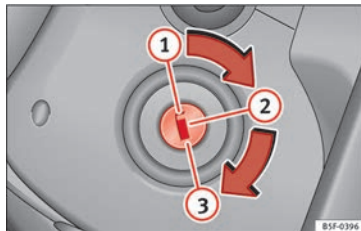

Fig. 145 Vehicle key positions
- Turn the ignition key to position  **1** » **Fig. 145.**
- Remove the key from the ignition in position ① » Fig. 145 » ⚠.